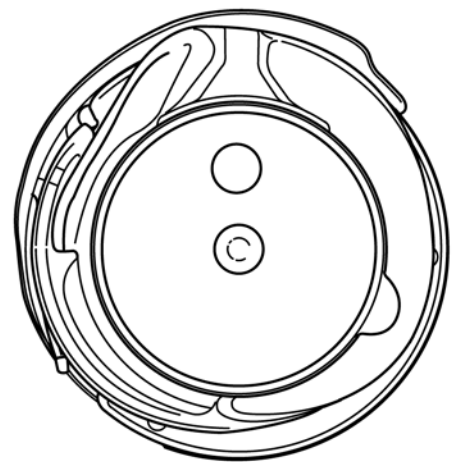

Fig. 65
- Insert the bobbin case base complete with sewing hook gib into the sewing hook (fig. 65).